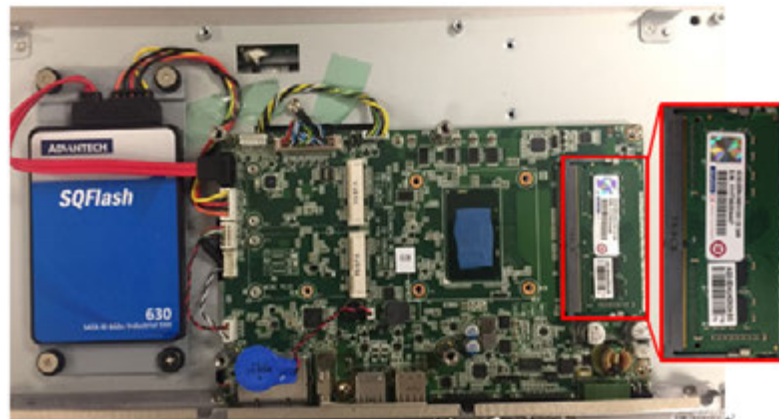
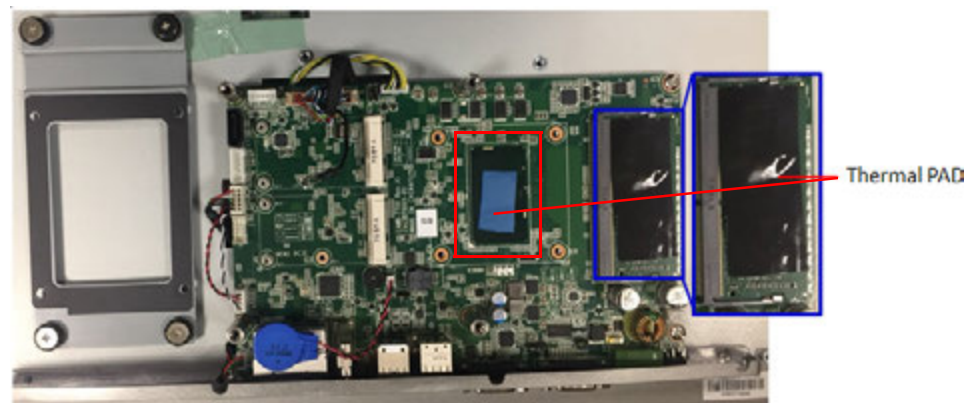

Figure 2.5 Memory card installation
Figure 2.6 Thermal pad placed on the memory card
2. Insert the memory card into the corresponding slot on the main board (see the area marked in red in Figure 2.5). Then place the memory thermal pad provided in the accessory box on top of the memory card (Figure 2.6).
Warning! Ensure that the thermal pad (provided in the accessory box) is placed on top of the CPU & memory card, as shown in Figure 2.6.
Assurez-vous que le tampon thermique (fourni dans la boîte d'accessoires) est placé sur la carte mémoire, comme illustré à la Figure 2.6.